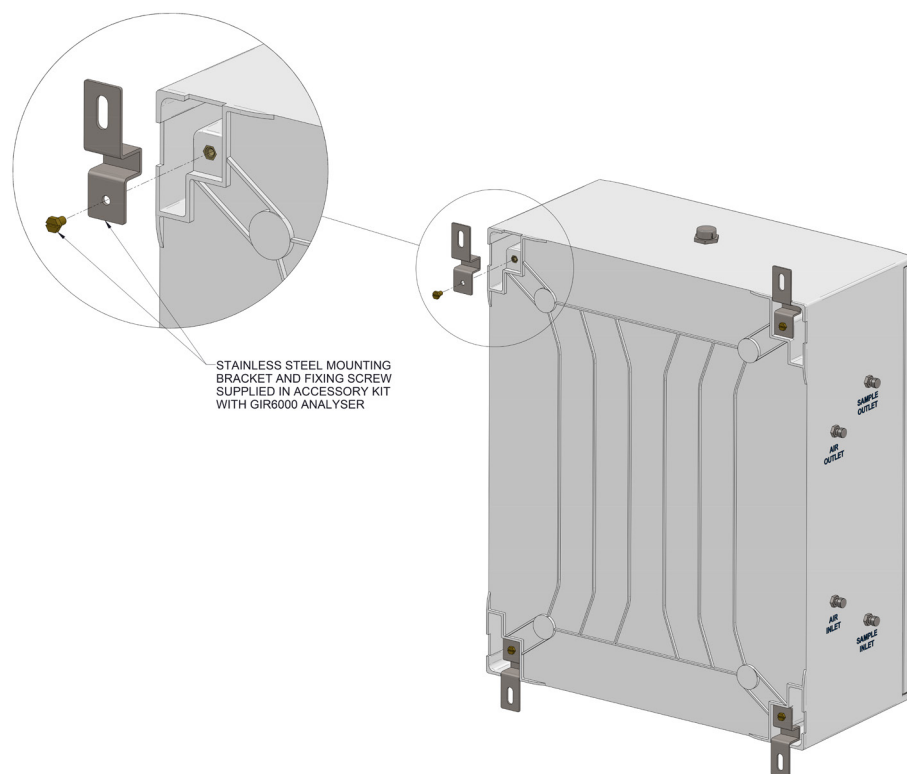

Figure 3.2 - The MTL GIR6000 mounting brackets and assembly procedure
- d) Attach the four stainless steel brackets (provided as accessories with the equipment) one in each corner, and secure in place using the M6 screws provided, as shown in fig 3.2.